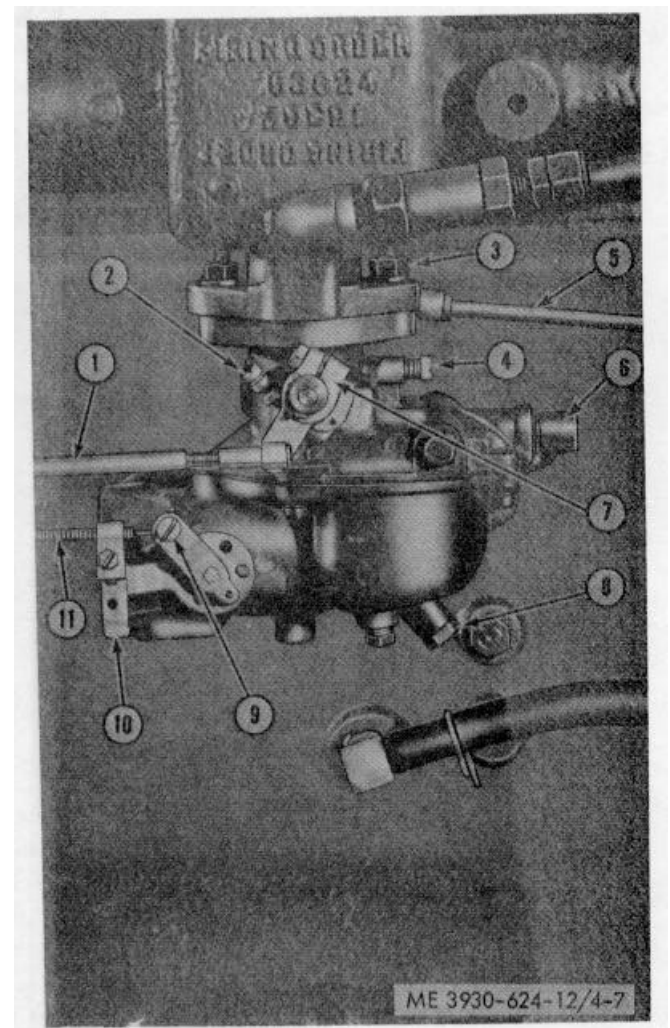

Figure 4-7. Carburetor adjustment.
Connect the fuel inlet line (6, fig. 4-7), governor control rod, choke control cable, and accelerator rod.
a. *Adjustment.* (fig. 4-7.)
(1) *General.* Proper mixture of fuel and air is controlled by a fixed jet and an adjustable idle fuel jet (14). The throttle stop screw (2) is preset to maintain the correct engine idle speed. Adjustments are properly set during manufacture.
(a) Turn the throttle stop screw (2) in against the stop to hold the throttle slightly open (fig. 4-7).
KEY to Fig. 4-7: